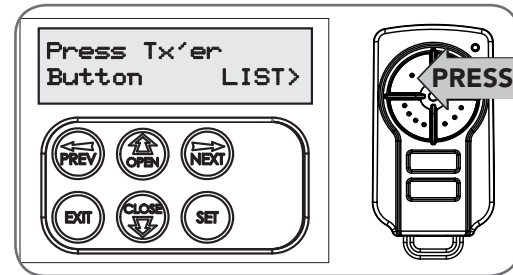

Fig G.2
- c. Press the transmitter once (**Fig. G.2**).